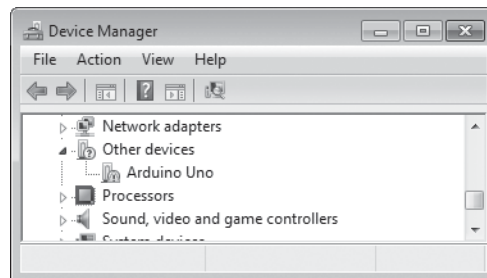

Figure 1-20: The Device Manager
2. Navigate to the Windows Control Panel. Open the Device Manager and scroll down until you see the Arduino, as shown in Figure 1-20.